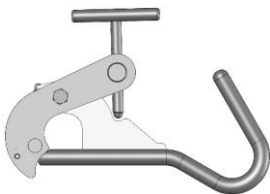

Fig. 9
RIM PINCERS (Fig. 9)
- Place the tyre on the rim, clamp the special pincers(Fig. 18/ Fig. 9) on the front rim flange and position the tool with reference to the edge of the rim flange.
- Re-position the tool near to the valve with the relevant reference point on the edge of the rim. Clamp the pincers (Fig.18/ Fig. 9) to the left of the tool and rotate the wheel clockwise making sure that the bead is inside the rim channel.